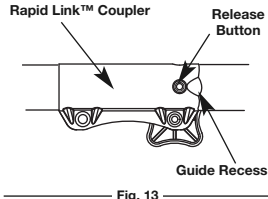

Fig. 13
2. Press and hold the release button (Fig. 13).
NOTE: Aligning the release button with the guide recess will help installation (Fig. 13).